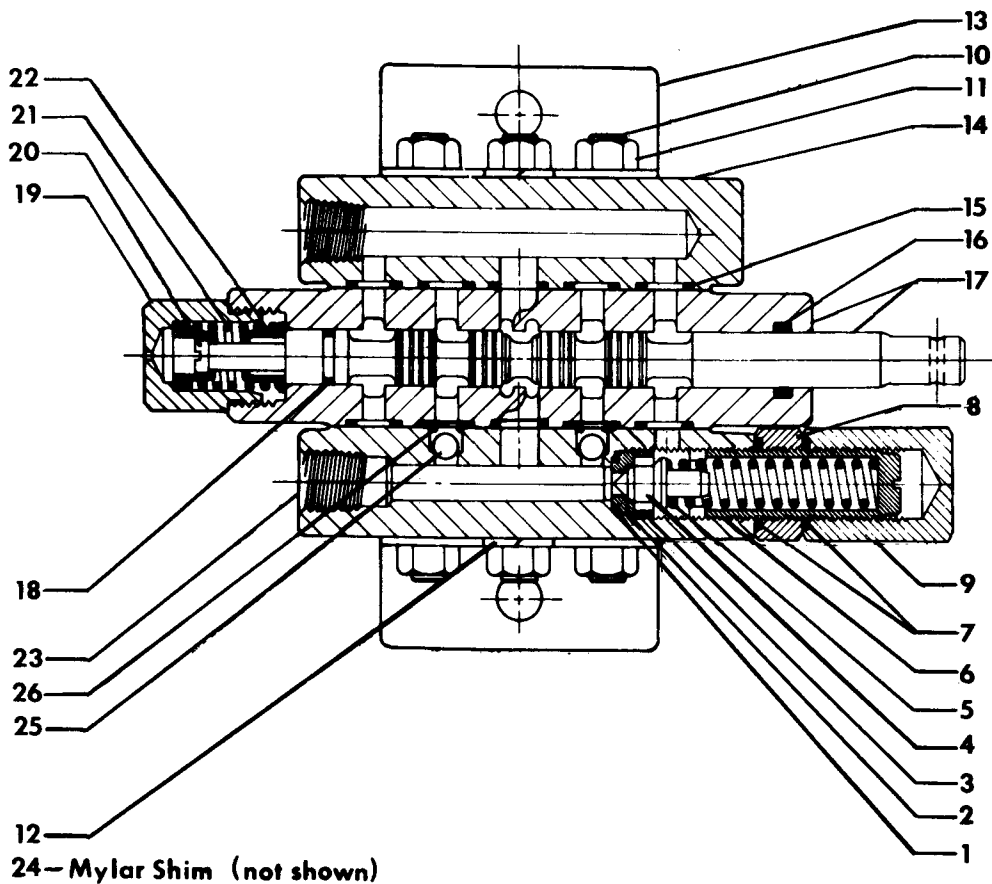

FIG 7
17. Paint on valve spool, sticking valve..... spool, or scored valve spool.	clean valve spool. Binding is usually caused from an over tightened plug, mounting bolt, fitting in valve body, or tie rod bolt. If a plug or fitting in valve body is leaking do not over tighten in an effort to stop leak. This will distort body casting and cause spools to bind. Instead, the plug or fitting should be removed from valve body and be reconnected, using a new O-ring. Do not apply excessive pressure on mounting bolts. The rods should be torqued to 150 in-lb. Never force spool, if binding occurs, see item 31 at the end.
18. Oil leakage past spool seal into..... spool cap.	remove cap, if it contains oil, replace spool seal O-rings, 31 at the end and Fig 7.
19. Broken return springs.....	replace springs, see item 31 at the end and Fig 7.
20. Bent spool.....	return for factory repair, or replace with new spool section. See item 31 at the end and Fig 7.
23. Spool not moved to full stroke.....	check travel, should be 1/4 inch either way or a total of 1/2 inch. See item 31 at the end.
24. Relief valve setting in backhoe con-..... trol valve too low or defective.	relief pressure will have to be checked and corrections made. Backhoe system pressure is 1600 PSI. Relief valve may need cleaning or replace inlet section with relief. See item 31 at the end and Fig 7.
28. Load check in the control valve not.....clean check ball(s) carefully, being sure holding. that it moves freely and seats properly or replace. See item 31 at the end and Fig 7.
29. Damaged or worn spool seals.....replace spool end seals, see item 31 at the end and Fig 7.
Parts List - Fig. 7